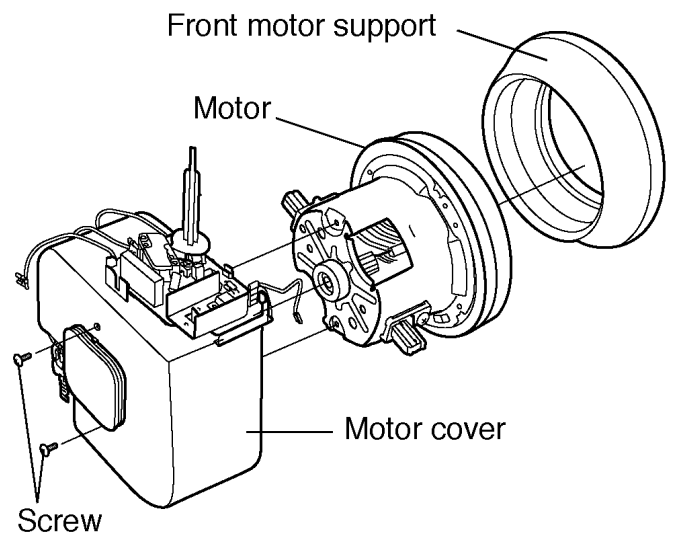

Fig.7
8. Reassemble front motor support and motor cover. Then refasten the two screws. (Fig. 7)